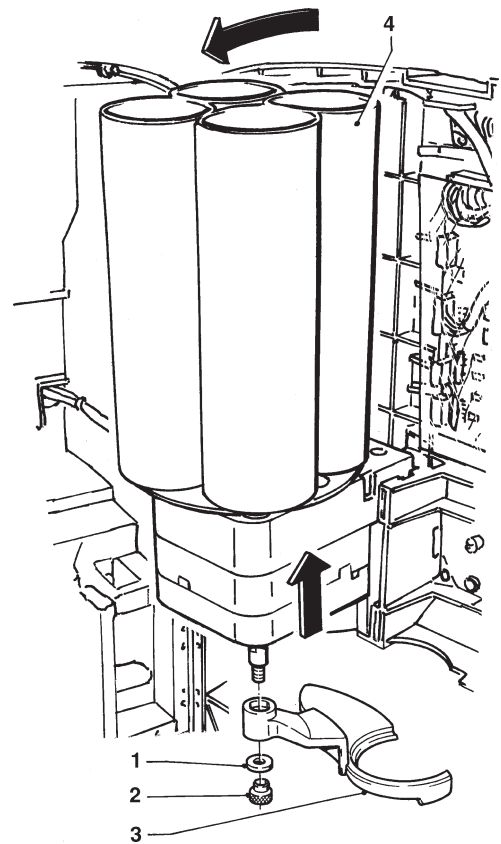

Fig. 6
- Slightly lift the cup dispenser and tilt it (see fig. 6).
For the automatic models the cup shift arm must be cleaned periodically after removing it from the machine. In order to remove it, completely undo the fastening knurled nut (see fig. 6).